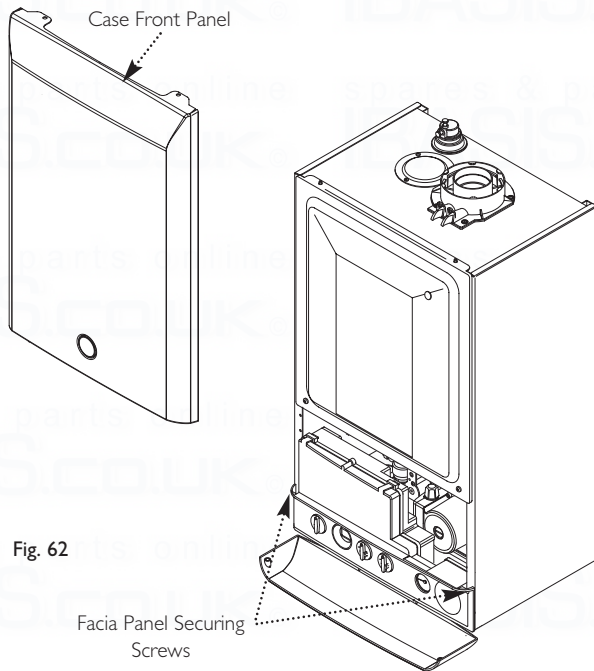

Fig. 62
5. Slacken the screws securing the facia panel. Lift the outercase panel so that its securing tabs are clear of the facia. Remove the panel, allowing the facia to hinge down (Fig. 62).